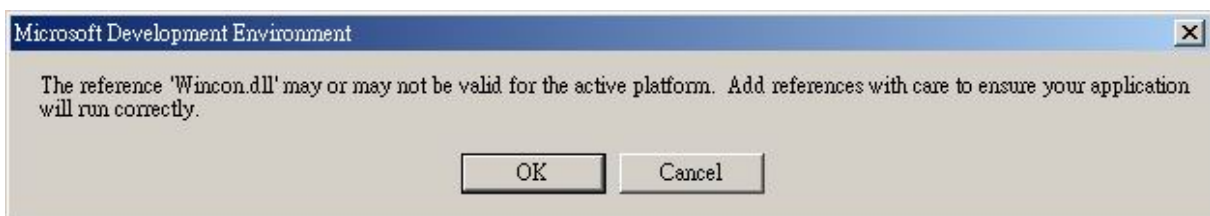

Fig. 5-2-6
**Note:** If the “**The reference ‘Wincon.dll’ may or may not be valid for the active platform. Add references with care to ensure your application will run correctly**” message dialog pops up, Click “**OK**” to close this message dialog. (See Figure 5-2-6)